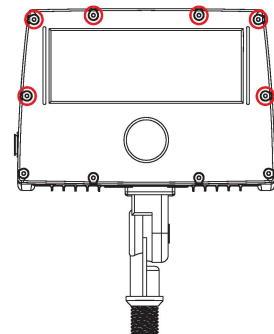

Fig. 5
TOP VISOR INSTALLATION - Order Separately (Fig. 5)
1. Take the screws out from the front cover (see Fig. 5 for screw locations).